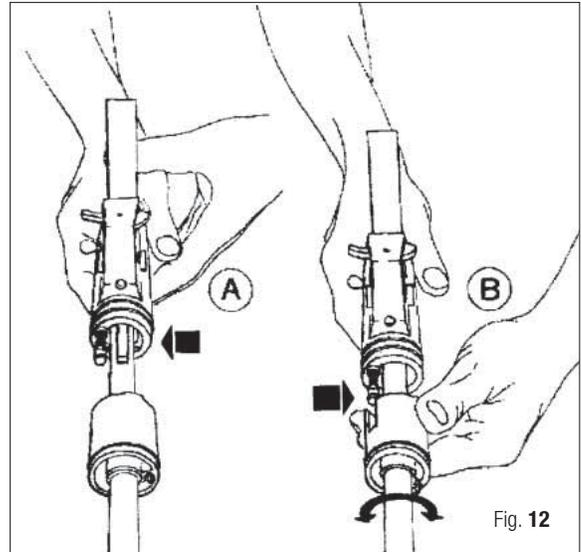
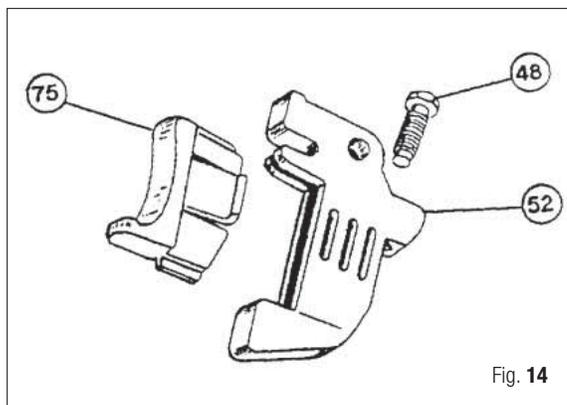

Fig. 12
Fig. 14
7. Position the one-way housing (69) over the one-way seat (68) and press into place (Fig. 12).
8. Place O-ring (20) into the groove of the power regulating block (70) (Fig. 12).
**NOTE** POSITION THE HANDLE (41) WITH THE TRIGGER SEAT ABOVE THE CATCH HOOK (50) (FIG. 12-A). ALIGN THE POWER ADJUSTMENT ROD WITH THE CORRESPONDING HOLE IN THE POWER REGULATING BLOCK. IF NECESSARY, ROTATE THE POWER REGULATING BLOCK, MAKING SURE THE ONE-WAY HOUSING REMAINS IN THE SNAP RING SEAT (FIG. 14-B). PUSH THE HANDLE AGAINST THE POWER REGULATING BLOCK AND MAKE SURE THAT THE POWER REGULATING BLOCK TABS ARE POSITIONED IN THEIR SEATS IN THE HANDLE.
- 29. On guns prior to serial number 92289000, place the o-ring (46) into the handle insuring that it is positioned in its seat then install the snap fork (74). Be sure that the snap fork locks into place.
- 30. Insert the rounded end of the connecting plunger (45) into the bushing (47) or snap fork (74) using special tool A-13 (Ø 3mm) or needle nose pliers.
- 32. Install trigger adjustment screw (48) and trigger insert (75) into trigger body (52) (Fig. 14). With a 6 mm wrench, tighten trigger adjustment screw (48) into trigger body (52), until the 6 mm. hex protrudes approximately 4 mm.
- 33. Align the hole in the trigger with the holes in the handle (41) and install trigger pin (53).
- 37. Open the jaws and remove barrel (26).
- 38. With a rotating motion, install tank (25) using jaws (A-3) if necessary.
- 39. Fill the barrel (26) with oil, according to the quantities shown in the table below.